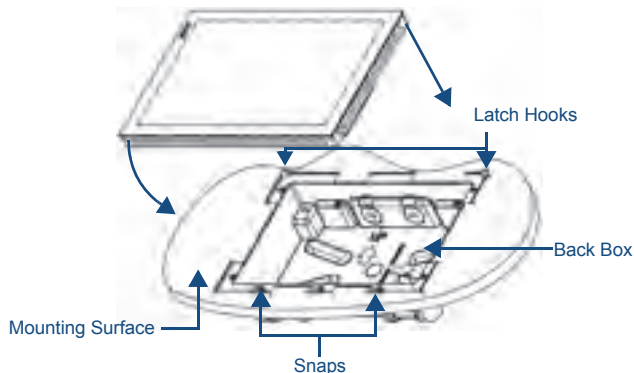

FIG. 5 Installing the MXD-1001
12. Latch the panel onto the top hooks on the back box and rotate it down (Landscape) onto the bottom snaps or on the left side and rotate it to the right (Portrait installation) (FIG. 5). Press gently but firmly on the ends until the snaps "click" to lock it down.